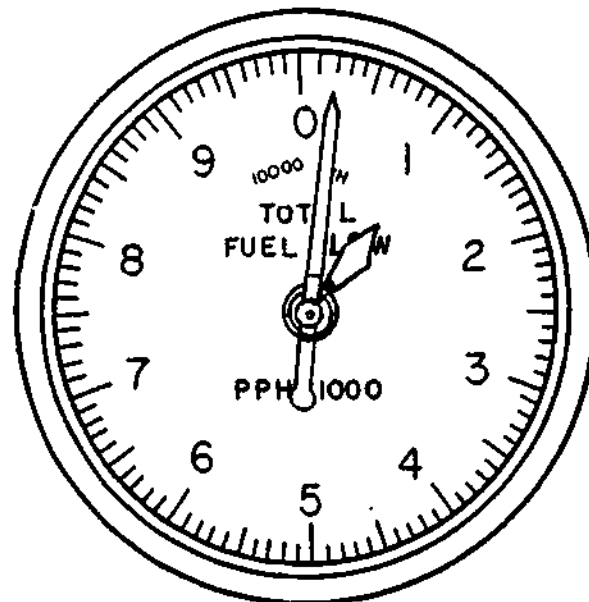

Figure 5.
2. The totalizer indicator (figure 5) indicates a fuel flow rate of